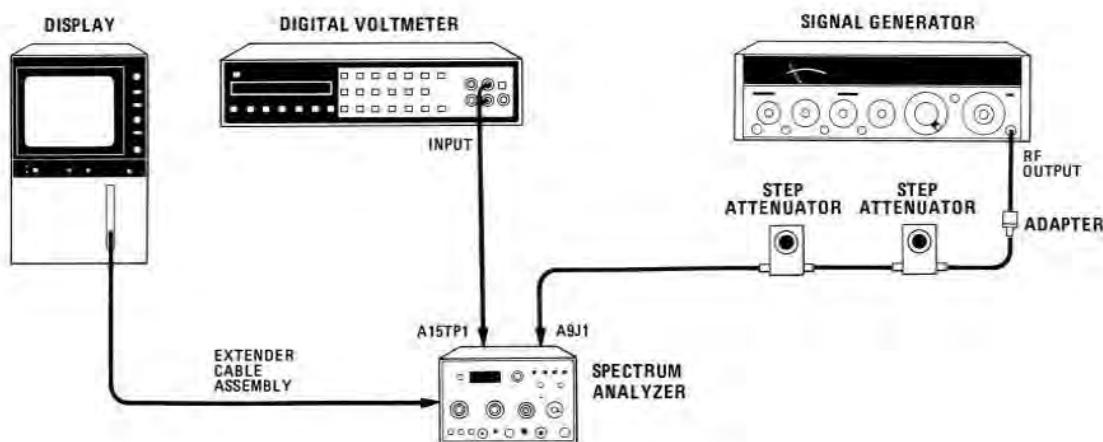

FIGURE 5-13. LOG AMPLIFIER AND LINEAR ADJUSTMENT TEST SETUP
- Connect equipment as shown in Figure 5-13. Set 1-dB step attenuator to 10 dB. Set signal generator frequency to 301.4 MHz and OUTPUT LEVEL to -13 dBm. Remove W7 from A9J1. Connect signal generator output through step attenuators and test cable to A9J1.